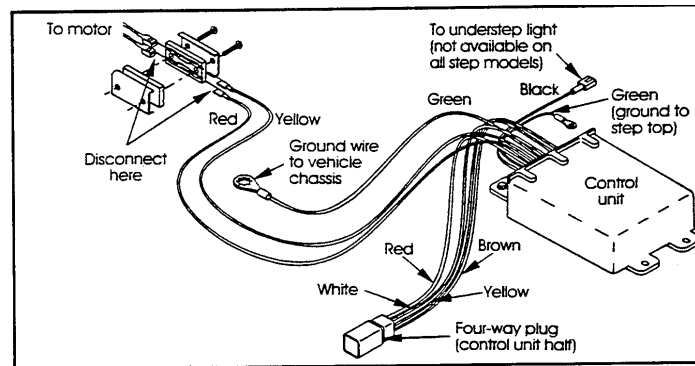

FIGURE 6
To further determine that the control is not shutting off, remove the 2 screws from the connector on the step motor leads between the step motor and the control unit. Remove the seal assembly. (See Figure 6 in the Step Test Procedure). Place a voltmeter between the red and yellow motor leads than reconnect the four-way plug. Turn the power switch on. If any voltage registers on the meter, the control is not shutting off and may be defective. When doing this test, switch the voltmeter leads back and forth between the red and yellow motor leads to be sure no voltage registers. If any voltage does register, disconnect the four-way plug to keep the motor from overheating. If zero voltage is present, the control has shut off and is normal.
12. Steps equipped with the permanent magnet motor require disconnecting the motor leads from the control unit before applying power to the motor leads (see Figure 6). To disconnect the motor leads, disassemble the motor lead wire connector seal.